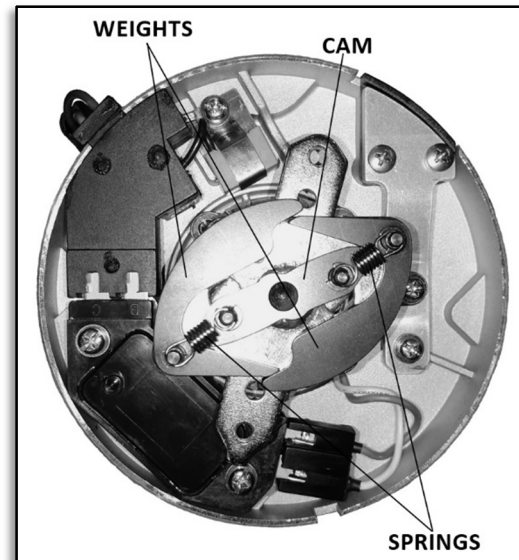

Figure 3. Centrifugal advance
2. Remove the advance components including the springs, weights, advance cam, and e-clips (Figure 3).